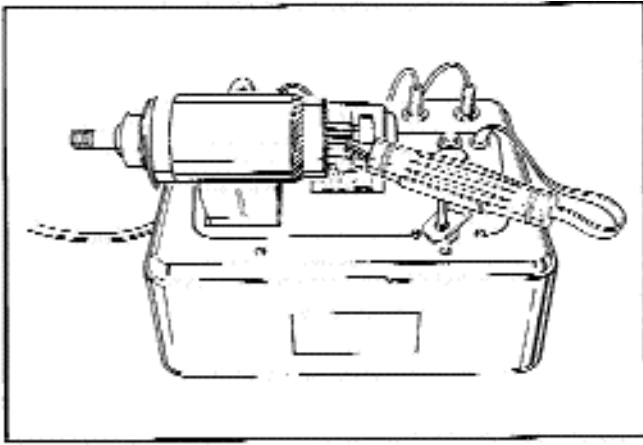

Figure 13 - Armature Coil Balance Test
3. Place contact handle in cradle and position cradle so contacts of handle touch a pair of commutator bars. See Figure 13.